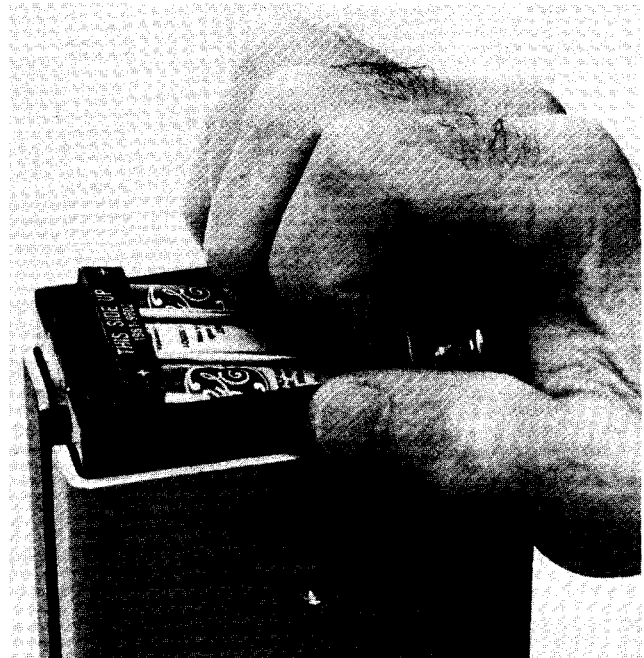

Figure 2-1. Removal of the battery pack.
2.1.1 Battery Installation and Removal. Figure 2-1.